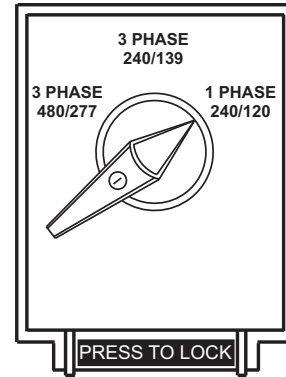

Figure 26. Voltage Selector Switch (Single-Phase 240/120-Volt Position)
1. Place the **Voltage Selector switch** in the **1-phase 240/120-volt position** as shown in Figure 26.